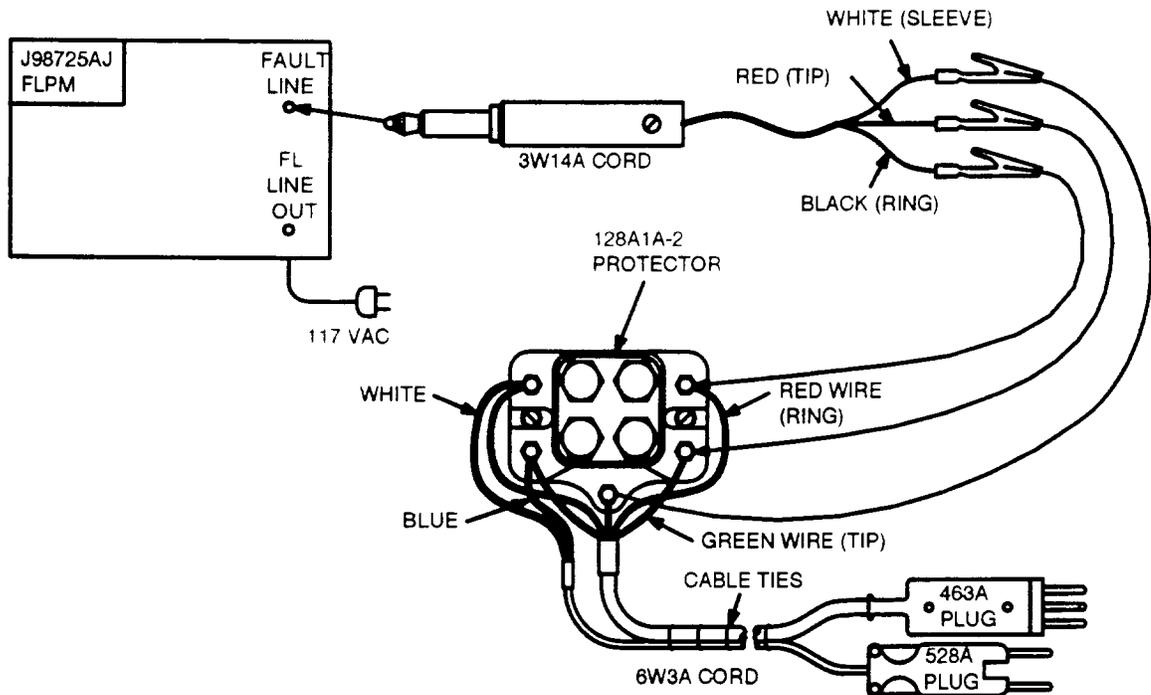

Figure 2 — Fault Line Powering Module Connections to 6W3A and 3W14A Test Cords
4. Make connection from J98725AJ fault line powering module to 6W3A and 3W14A test cords. (See Figure 2.)
7. Make connection from J98725AJ fault line powering module to 6W3A and 3W14A test cords. (See Figure 2.)